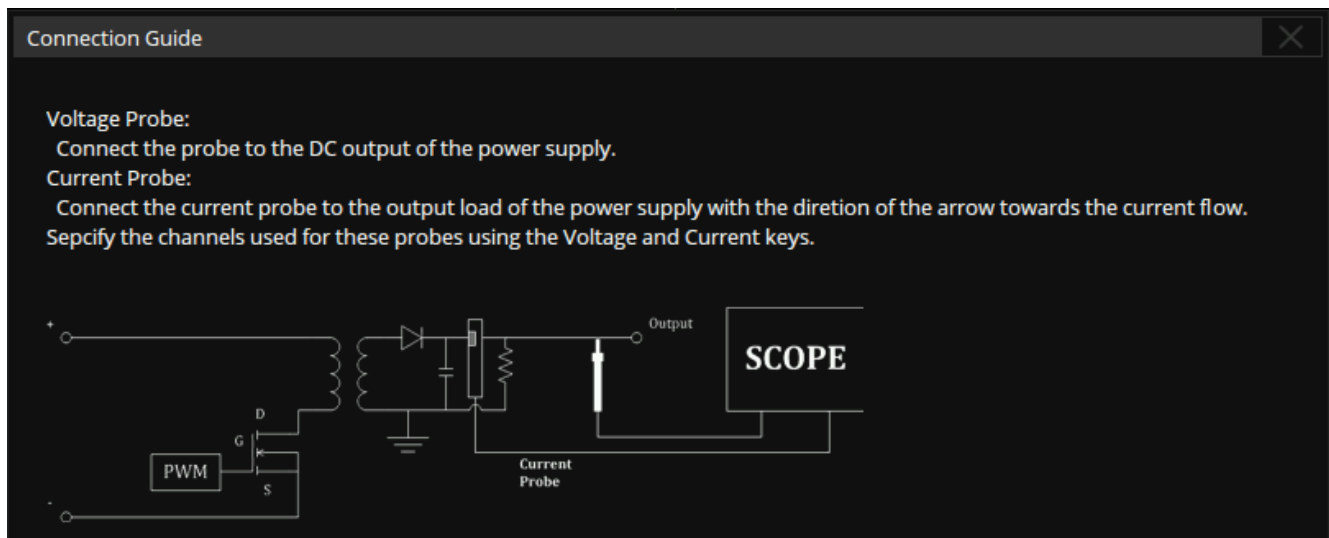

Figure 19.22 Connection Guide
7. Touch **Connection Guide** to display a diagram illustrating the procedure setup. See figure 19.22